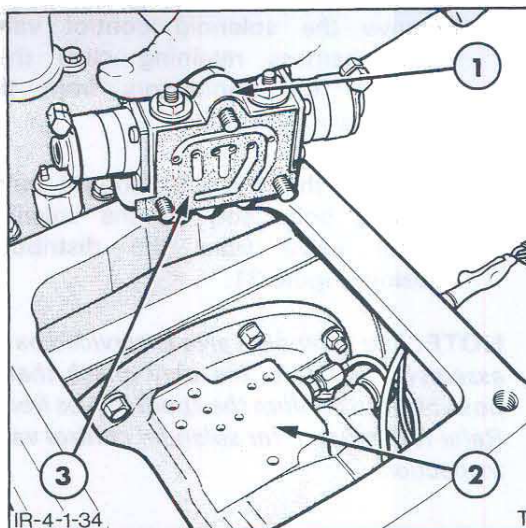

Figure 31
4. Withdraw the solenoid control valve retaining bolts and lift the solenoid control valve from the distributor housing, Figure 31.